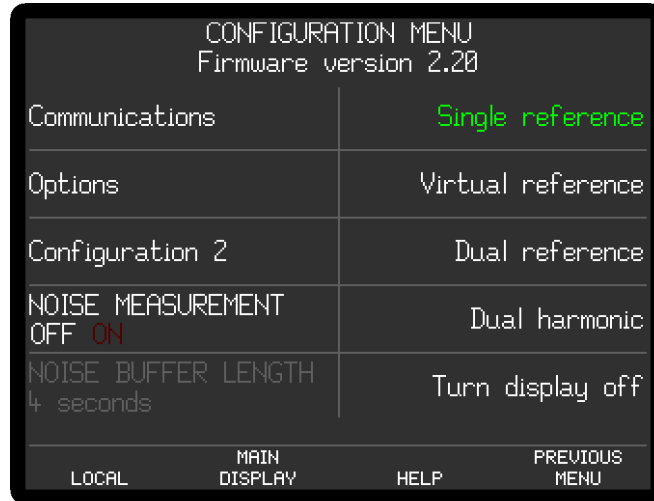

Figure 2-8, Configuration Menu 1
- 4) Press one of the keys adjacent to the Configuration menu item to enter the Configuration menu 1, shown below in figure 2-8.